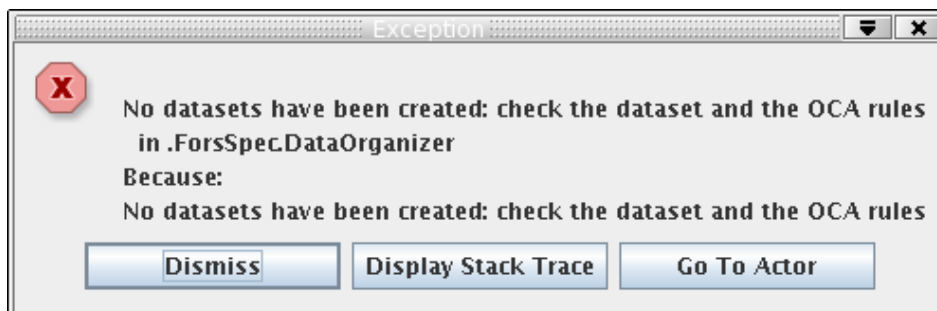

Figure 9.1: *TheDataOrganizer* interactive window reports an error “:No DataSets have been created, check the data set and the OCA rules.”.
1. **I downloaded the data from the ESO archive, put them into a new directory, tried to run `Reflex` on them, but the `DataOrganiser` fails with the error message “:No DataSets have been created, check the data set and the OCA rules.”(see Figure 9.1.)**